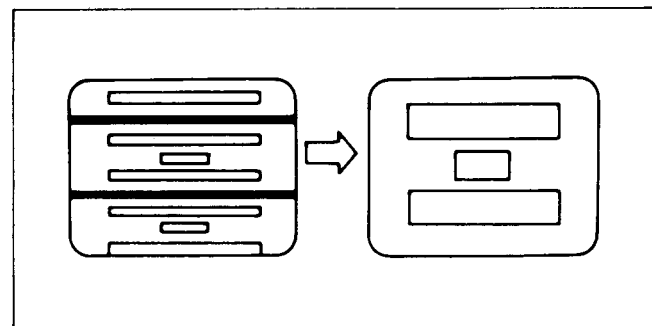

Fig. C40
- (1) Aim the camera at the gray scale chart.
- (2) Adjust the Vertical Size (VR701) so the Vertical Size is correct and the picture does not roll as shown in Fig. C40.